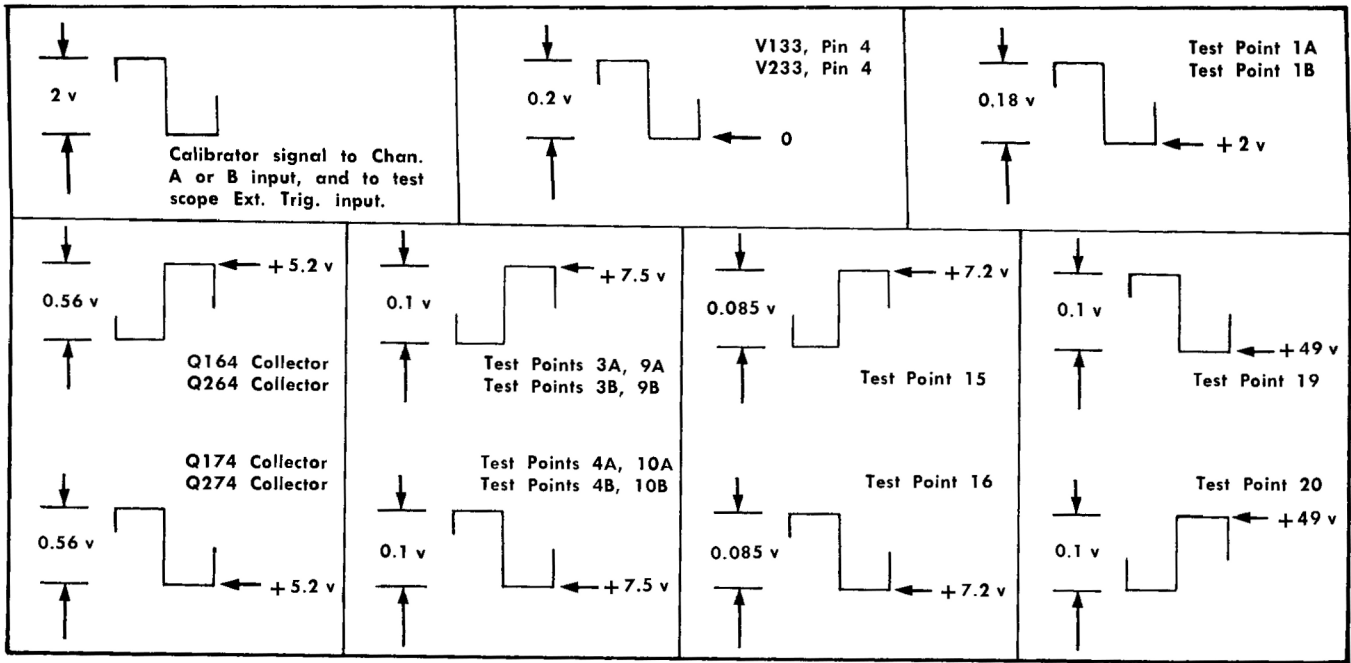

Fig. 4-11. Checking X1 voltage gain. Set GAIN switch to X1 and V/CM switch to 1.
The amplitude and dc level shown adjacent to the waveform drawings in Figs. 4-11 and 4-12 are intended to be used as a guide and are not absolute. They may vary due to gain-adjustment settings, normal manufacturing tolerances, and characteristics of Zeners, transistors and tubes. In addition, the power-supply voltages applied to the Type 82 vary between oscilloscopes within
3. Apply a 2-volt peak-to-peak calibrator signal from the Type 580-Series Oscilloscope to the appropriate INPUT connector of the Type 82. Also, apply the calibrator signal to the External Trigger input connector on the test oscilloscope. (Use items 6 and 7 in the Test Equipment list for this purpose.)
4. Connect a third lead (item 8) between the test oscilloscope ground terminal and the Type 82 ground.
6. Touch the tip of the probe to the CAL. OUT connector on the Type 580-Series Oscilloscope. Set the front-panel controls on the test oscilloscope to display one or two cycles of the calibrator waveform. (Use a sweep rate of 0.1 millisecc/cm or 0.2 millisecc/cm.) Be sure to set the test oscilloscope triggering controls for external triggering and to display the first 1/2-cycle of the waveform as positive-going. The displayed waveform will then correspond to the input waveform polarity as shown in Fig. 4-11 and 4-12. Disconnect the probe.